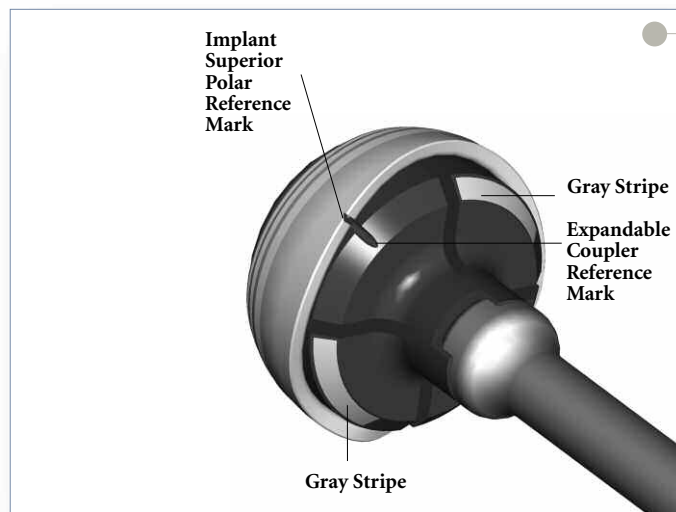

Figure 10
Notice that the Expandable Coupler has a reference mark (that lines up with the axis of the handle) that corresponds to the superior reference mark on the implant. The gray stripes engraved on either side of the reference mark on the Expandable Coupler indicate the position of the cup notch (right or left) for the iliopsoas tendon (Figure 10).
► While the implant is still in the packaging, place the Cup Holder vertically into it, making certain to align the cup and the Expandable Coupler reference marks for proper Cup Holder/implant orientation and fit (Figure 10). While maintaining the position of the cup, turn the Cup Holder handle to tighten the cup onto the end of the Cup Holder and prepare it for placement into the acetabulum.